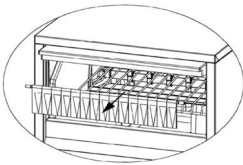

Fig 3
1. Remove the plastic curtain and pull out the metal grill (Fig 3).